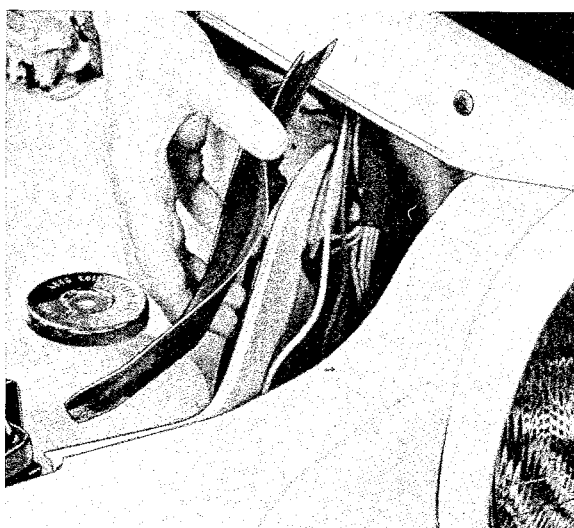

Fig. 3-88. Removing plastic cover
1. Remove the screw and take off the plastic cover over the space behind the headlight, see Fig. 3-88.